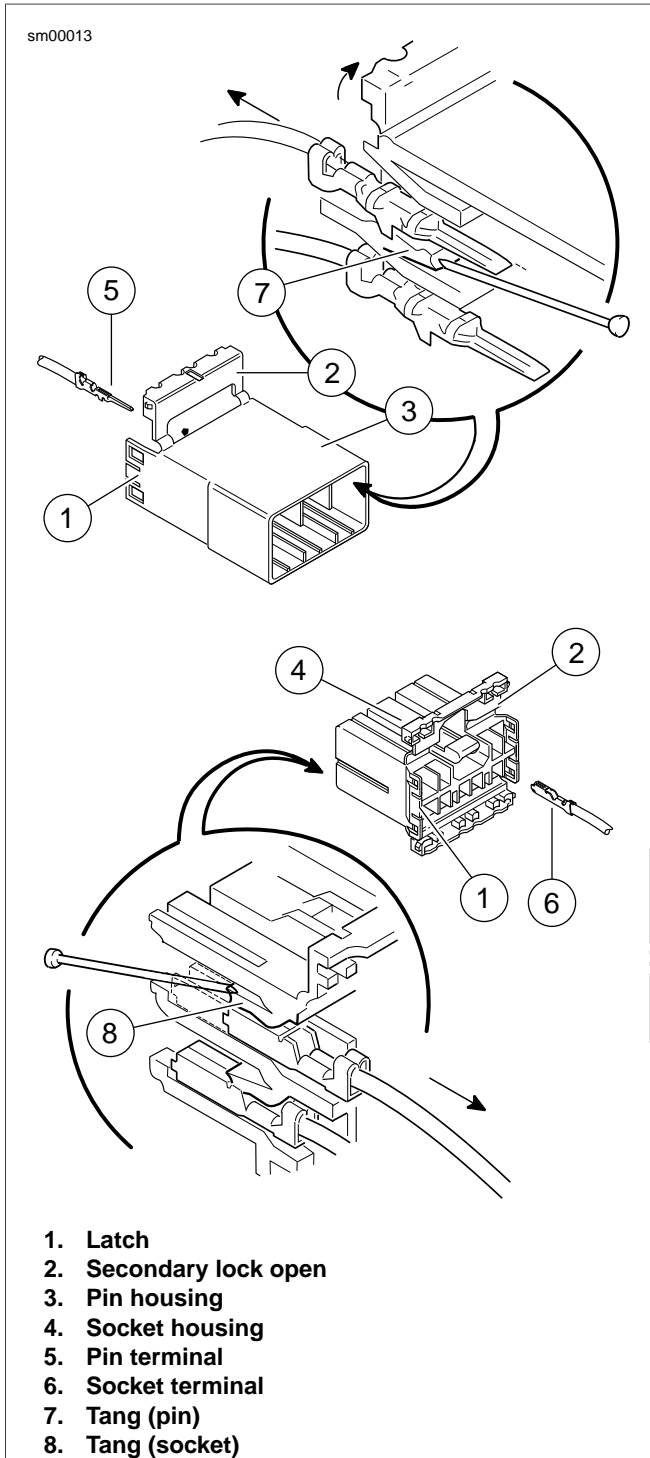

Figure A-2. AMP Multilock Connector: Socket and Pin Housings
1. See Figure A-2. Bend back the latch (1) to free one end of secondary lock (2) then repeat on the opposite end. Hinge the secondary lock outward.